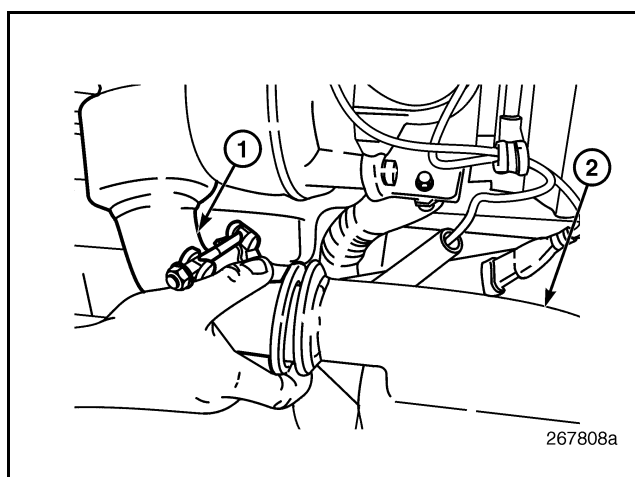

Figure 488 — Hot Tube-to-Cooler Connection
3. Loosen and remove the clamp connecting the hot tube-to-EGR cooler inlet flange (Figure 488).